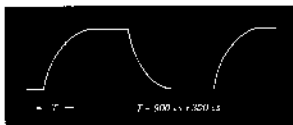

Fig. 7-6.
2. Confirm that the gate pulse interval is $900 \mu\text{sec} \pm 300 \mu\text{sec}$. See Fig. 7-6.